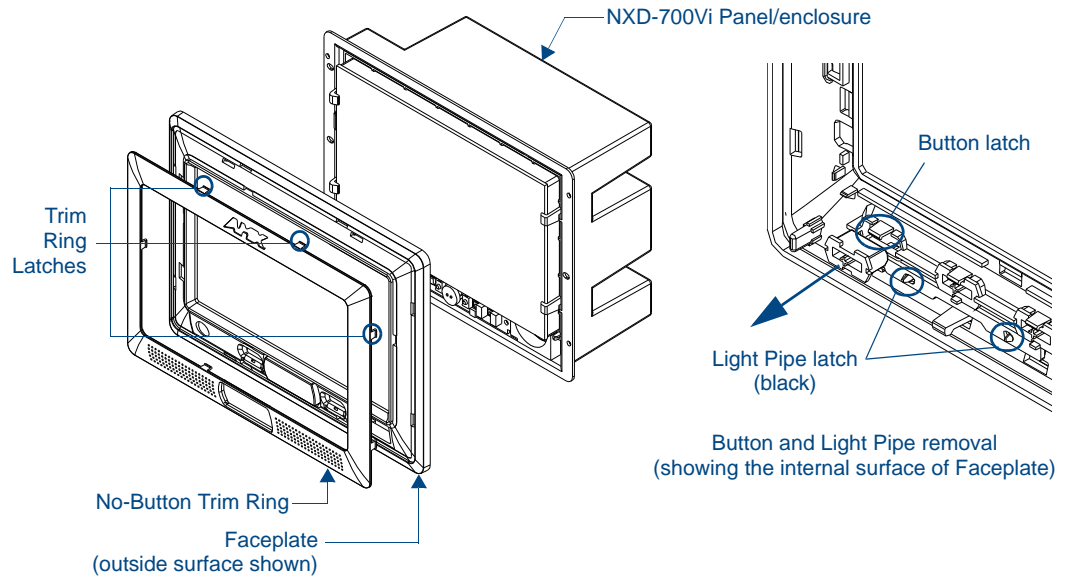

FIG. 9 Removing the No-Button Trim Ring
4. Gently tug along the edges of the No-Button Trim Ring and work your way around the edges to remove it from the Faceplate (FIG. 9).
5. From along the internal surface of the Faceplate, install the six buttons by firmly inserting them into the button openings until the Button latch secures the button in place (FIG. 9).